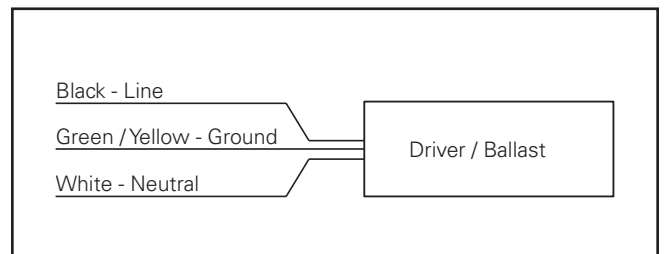

Figure 14.
15. Wire according to NEC code. (Figure 14)